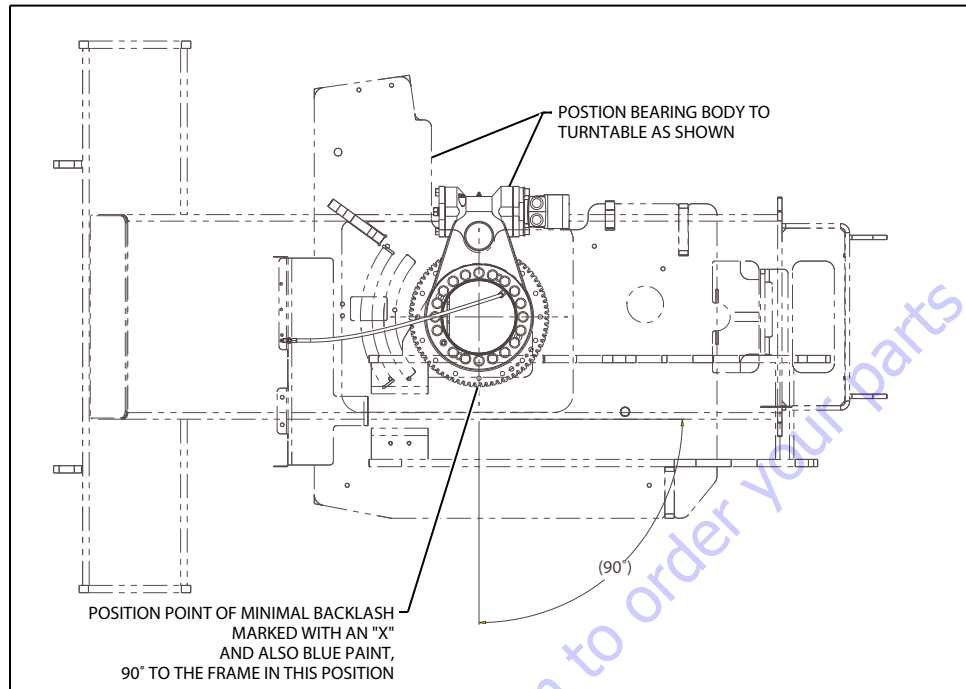
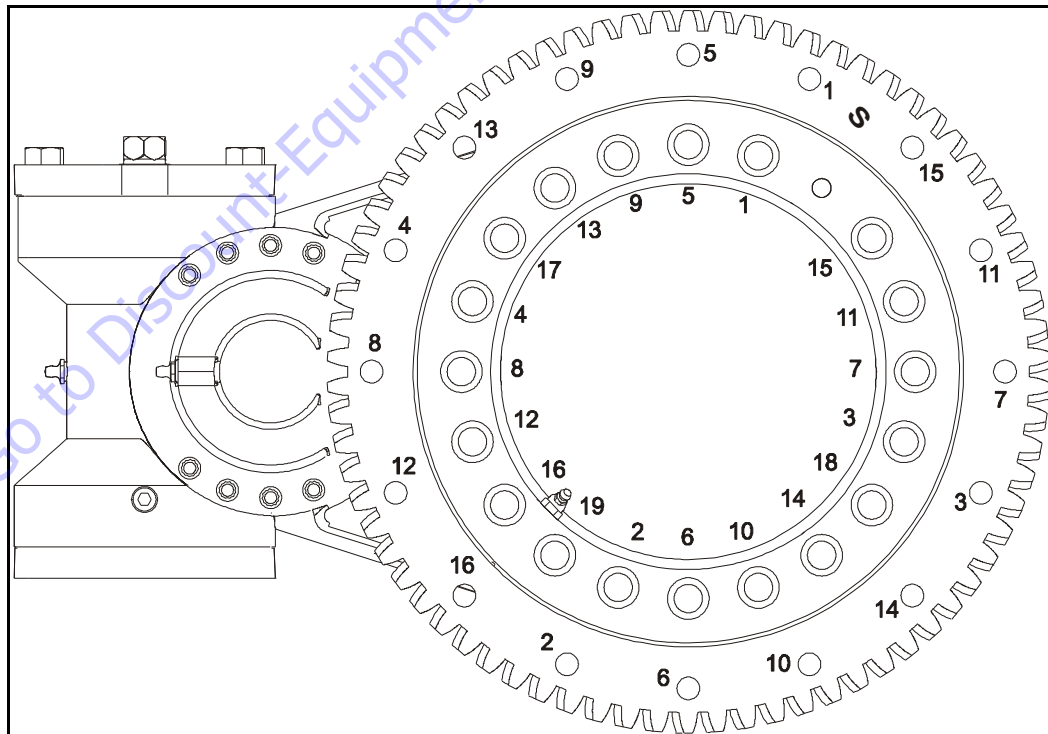

Figure 3-15. Bearing Placement
Figure 3-16. Swing Bearing Torque Sequence
2. Install the bearing in the position shown in Figure 3-15., Bearing Placement. Coat the bearing bolts with High Strength Threadlocking Compound and secure the bearing assembly to the frame with the bolts. Following the torque sequence diagram in Figure 3-16., Swing Bearing Torque Sequence, tighten the bolts to an initial torque of 95 ft.lbs. (130 Nm). Next, following the same sequence, tighten to a final torque of 133 ft. lbs. (180 Nm).
7. Following the torque sequence diagram in Figure 3-16., Swing Bearing Torque Sequence, tighten the bolts to an initial torque of 95 ft. lbs. (130 Nm). Next, following the same sequence, tighten to a final torque of 133 ft. lbs. (180 Nm).